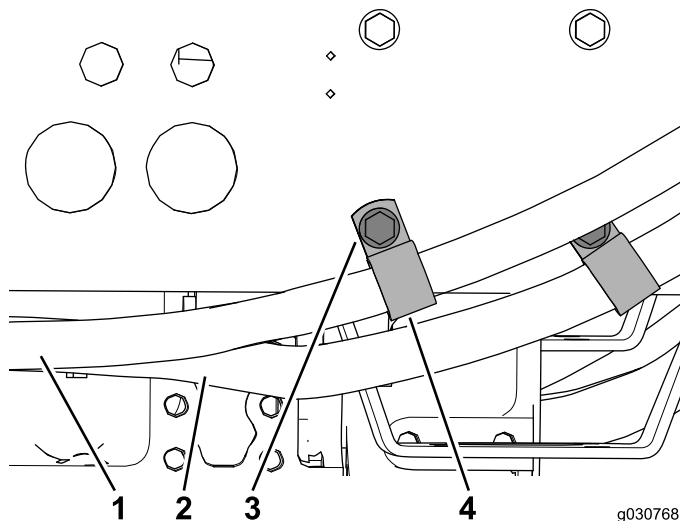

Figure 44
5. Install 1 R-clamp around each air-conditioning hose and use the 2 existing bolts to secure them to the machine frame (Figure 44).